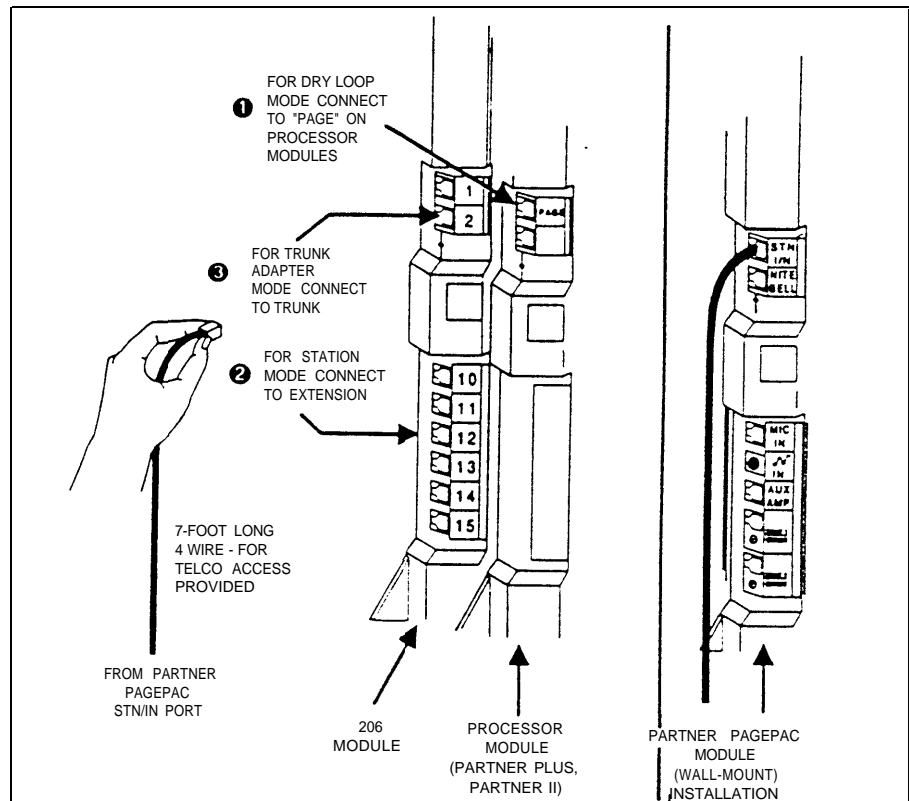

Figure 2-2 Cable Connections for Selected Interface Mode
The green light below the night bell jack on the module should come on (see Figure 2-2). If it does not, see "Troubleshooting" in Appendix A.
Dry Loop Mode permits the PARTNER Pagepac paging system to be connected to the Page Port on the PARTNER II and PARTNER Plus system's Processor Module. This option frees up one of the system station ports (extensions). See Table 2-1 and Figure 2-2 for cabling instructions.
Station Mode can be used when there is an available station port (extension) that will not be needed by the PARTNER Plus or PARTNER II system. See Table 2-1 and Figure 2-2 for cabling instructions.
Trunk Adapter Mode can be used in the event that neither a Station Port nor a Page Port is available. In this case connections are made to one of the PARTNER Plus or PARTNER II system trunk (line) ports and presents a dry loop interface to the PARTNER PagePac paging systems. This option requires the use of an AT&T PARTNER PagePac Trunk Adapter with included power supply (PEC 5335-301). Table 2-1 and Figure 2-2 provide cabling information. See further Trunk Adapter installation instructions on pages 2-13 through 2-15.
1. Use a standard 7-foot, 4-pin RJ-11 modular cable (provided) to connect the PARTNER Plus or PARTNER II system to one of the following PARTNER PagePac modules (refer to Table 2-1 and Figure 2-2). Connect the modular cable from the PARTNER PagePac module's "STN I/N" port to:
- ❶ – Page Port on processor module (for Dry Loop Mode) or
- ❷ – Station Port (for Station Mode), or
- ❸ – Trunk Port (for Trunk Adapter Mode).